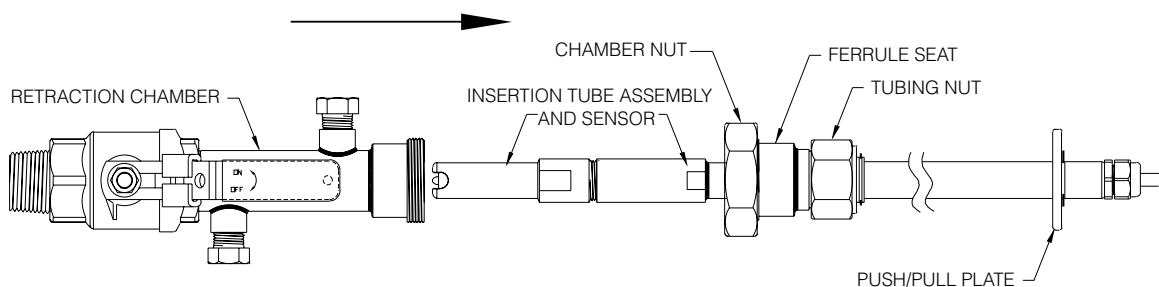

Figure 22. Removing and Replacing the Sensor
1. Refer to Figure 22. Slightly loosen the tubing nut and pull the insertion tube assembly out of the process as far as you can. Retighten the tubing nut.